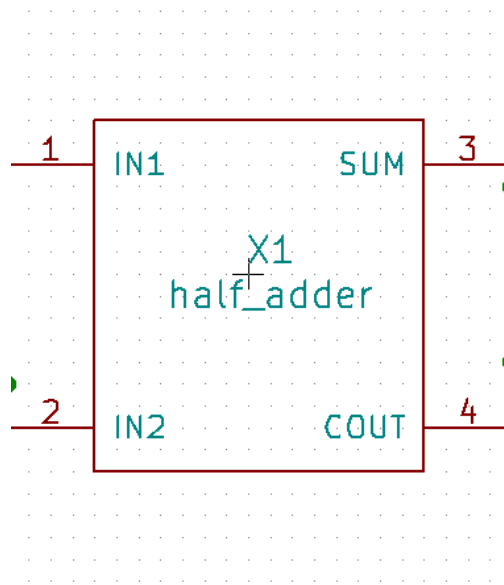

Figure 8.8: Half-Adder Subcircuit Block
9. The final block of the subcircuit would look as shown in Fig. 8.8. Pins should be attached properly. Labels(Names to the PORTs) should be given such that it is intuitive and someone other than you should be able to understand and use that block with least amount of hassle.
- Once above steps are verified, proceed to create a block as shown in Fig. 8.8 and name should be same as that of the corresponding .sub file uploaded earlier. Pins of this block should match the number of pins stated in the .sub file.